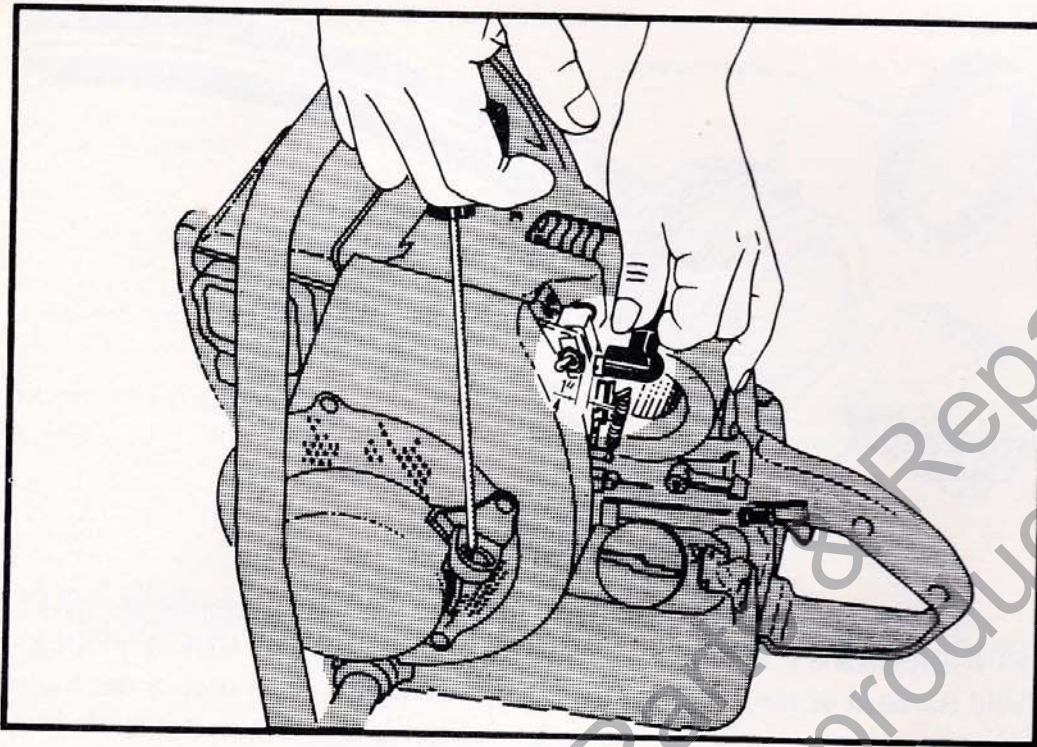

Figure 10—Testing For Spark
- (1) Spark plugs are made in wide ranges to suit different engines. This saw uses the Champion HO-3 (Homelite Part No. 72858-2S) spark plug.
- (2) **TO REMOVE THE SPARK PLUG:** First remove the cylinder shroud. Then twist the spark plug cover counterclockwise and pull it off the spark plug terminal. Free one end of the synthetic rubber spark plug shield and pull it off the spark plug. Then use the combination wrench (supplied with saw) to remove spark plug and gasket.
- (3) Clean both the porcelain and the electrodes and adjust the electrode gap to .025". If the points are badly burned or porcelain is cracked, replace with a new Champion HO-3 spark plug and gasket.
- (4) If the spark plug is wet, it indicates excess fuel in the cylinder. If the spark plug is oily, there is either too much oil in the fuel or the engine is running rich for some reason. (First thing to suspect in this case is a clogged air filter.)
- (5) While the spark plug is removed from the cylinder, it is easy to test ignition spark. (See figure 10.)